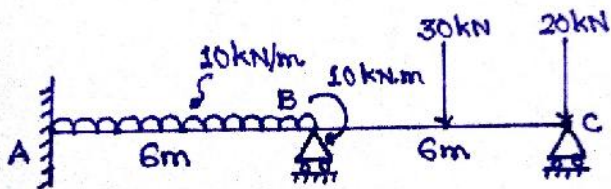

Figure 7
A) Analyse the propped cantilever beam loaded as shown in **Figure 7** using flexibility member approach. (07)